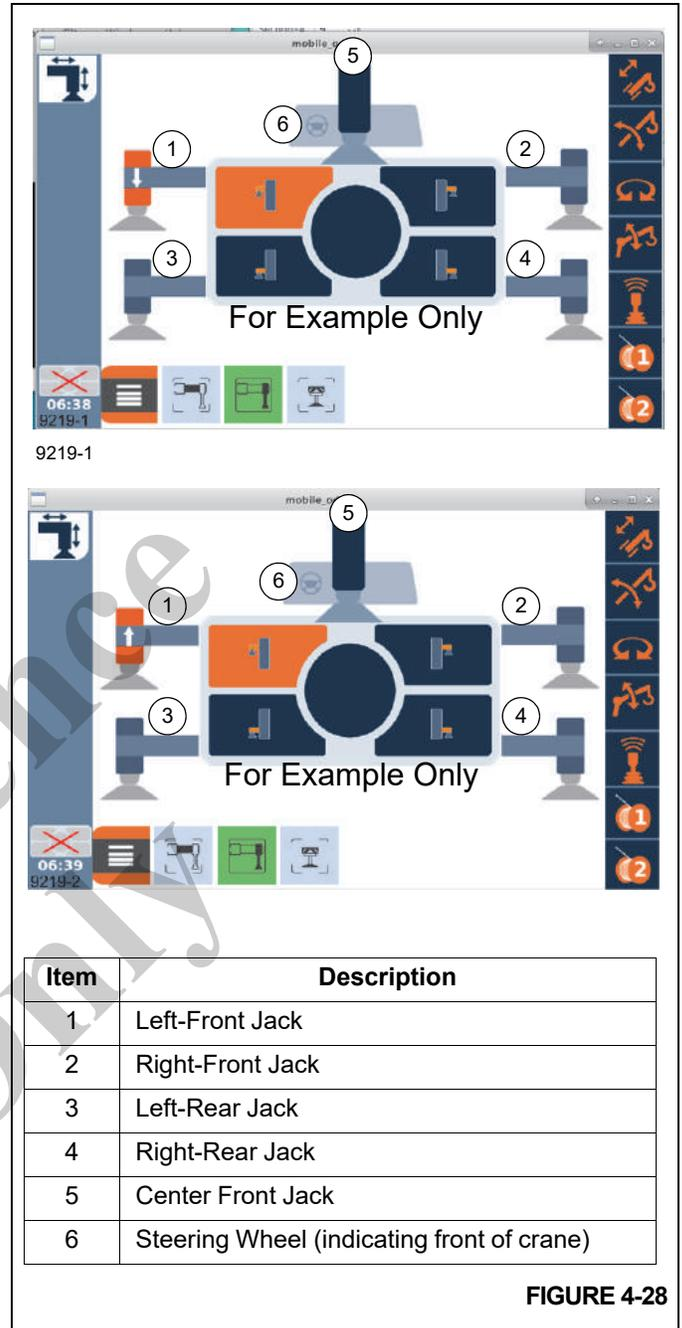

FIGURE 4-28
When a button at the Jog Dial or Navigation Control Pad is pressed and held, the corresponding O/R Jack image turns orange to indicate that it is active. An arrow appears to indicate whether the Jack is extending or retracting. The following example (Figure 4-28) Item 1 shows the Left-Front O/R Jack is extending or retracting (as can be seen by the orange highlight).
To extend or retract the Center Front Jack (5), (Figure 4-28), perform the following procedure: